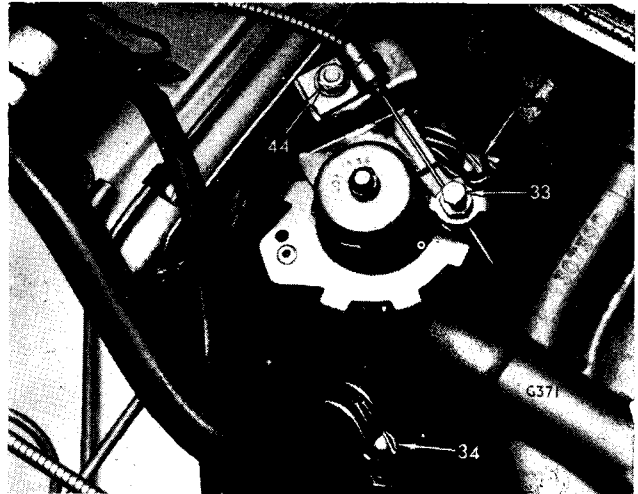

Fig. 25. Heater valve
Drain the coolant. Disconnect the heater hoses at the valve (Fig. 25). With one hose in a container, blow down the other to clear the coolant from the heater matrix.
Slacken the bolt (44) and the clamping bolt (33) and disconnect the control cable (Fig. 25).